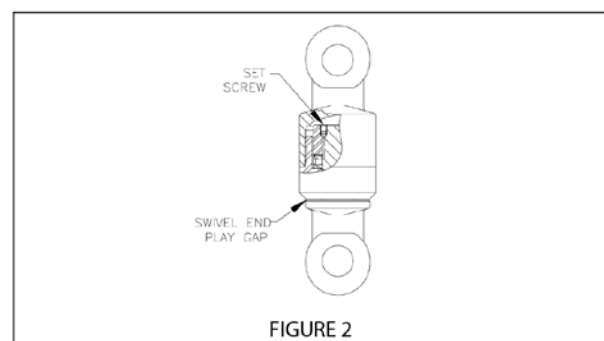

FIGURE 2
- Swivel end play gap exceeding .08". Excessive end play indicates damaged internal set screw, (See Figure 2)